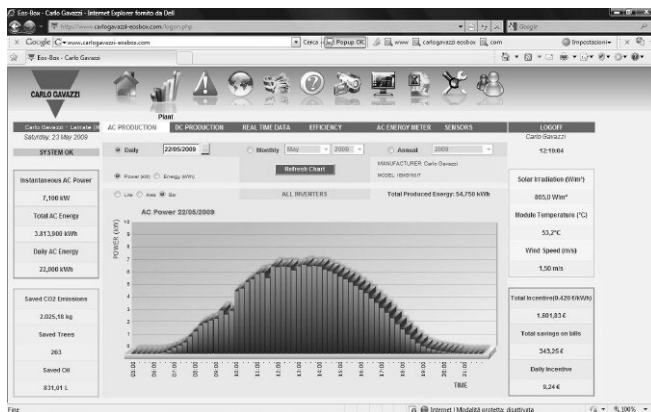

Fig. 5
**1** AC production and then the following selections (Fig.5):